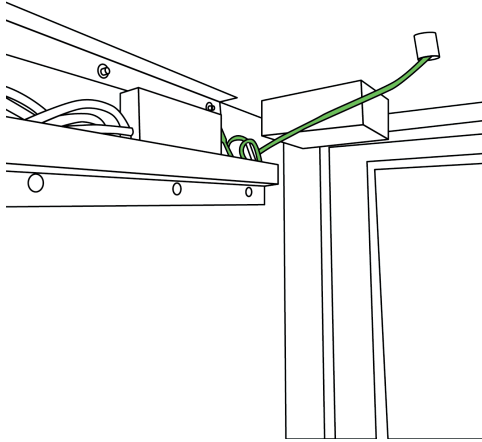

Figure 6-57. Elo Touchscreen power cord threaded through the top of the compartment
5. Thread the DC barrel of the power cord towards the hole in the top of the compartment and plug it into the Elo Touchscreen (Figure 6-57).